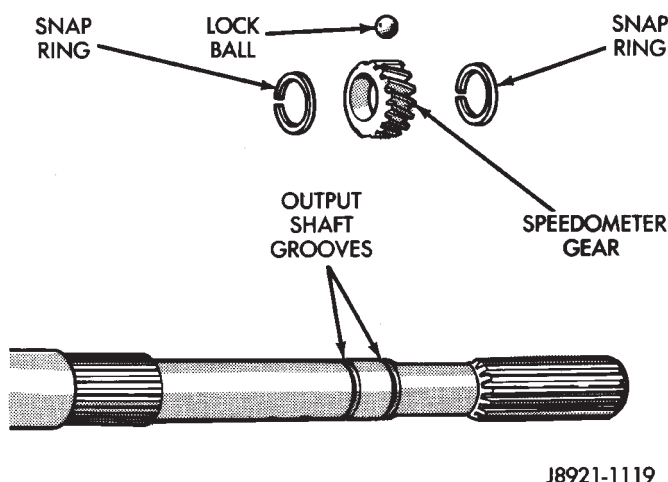

Fig. 115 Speedometer Gear Installation (2WD Models)
(12) On 2-wheel drive models, install speedometer gear, lock ball and retaining rings (Fig. 115). Be sure lock ball is engaged in gear.